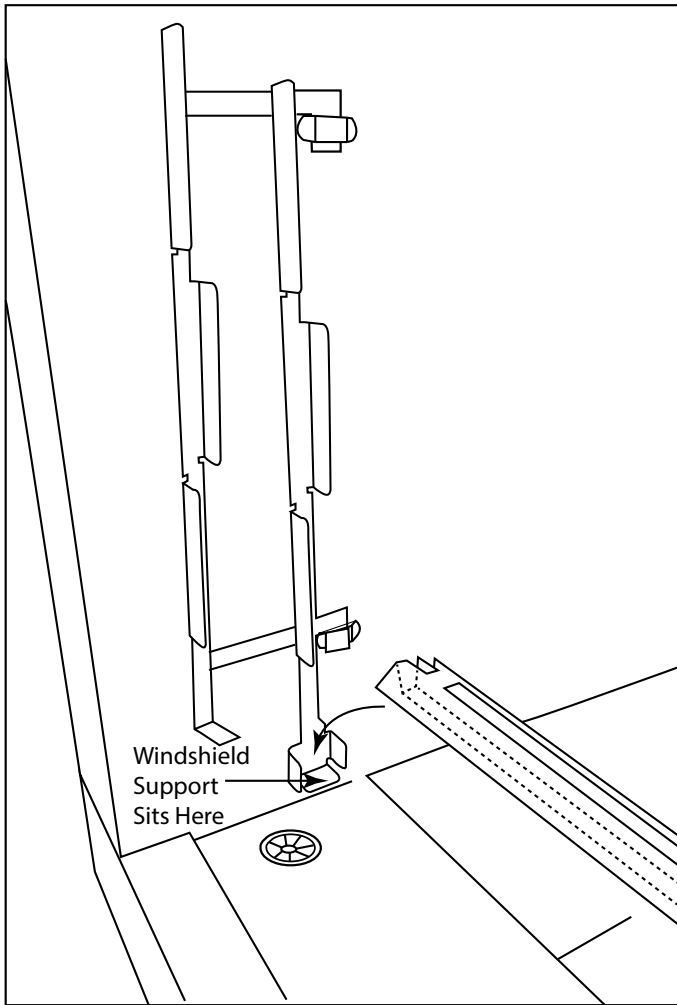

Fig. 8 Installing windshield support.
Step 8: Insert the windshield support into the back glass clip. Install in same manner on the right side. See Figs. 8 & 9.